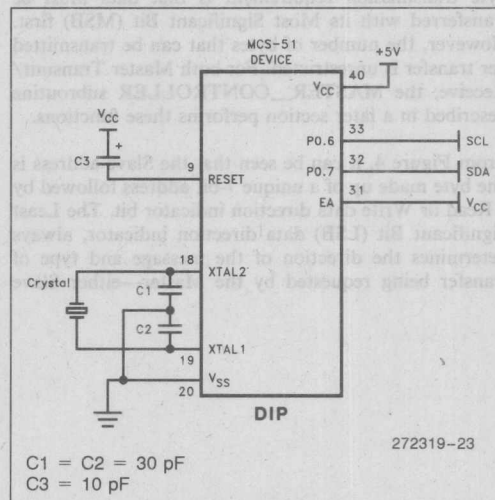

Figure 6. MCS-51 Hardware Requirements
Figure 6 diagrams the necessary hardware connections of the development circuit. Internal Memory execution is accomplished by connecting the External Access (EA) DIP pin #31 to V_{CC}. The capacitor attached to RESET DIP pin #9 implements POWER ON RESET. While the capacitors and crystal attached to XTAL1&2 enable the on-chip oscillator, additional decoupling capacitors can be added to clean up any system noise. Additional MCS-51 information can be found in the 1992 Intel Embedded Microcontrollers and Processors Handbook Volume 1.